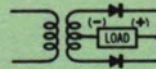

Fig. 1 — Selenium Stack Circuits
① See Table 4, page 22.    ② See Figure 1, page 21.    ③ See Table 5, page 24.    ④ 6 AC Terminals, 2 DC Terminals.    ⑤ 3 AC Terminals, 6 DC Terminals.
⑥ Available for severe environmental requirements.    ⑦ See Table 4, page 22.